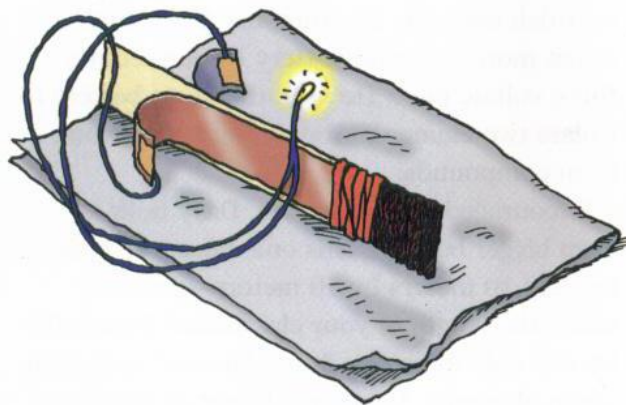

Figure 2.6 Lay the zinc-copper assembly on a paper towel.
9. Lay the assembly on a paper towel, as shown in Figure 2.6, and observe the bulb for a few minutes. Record your observations.